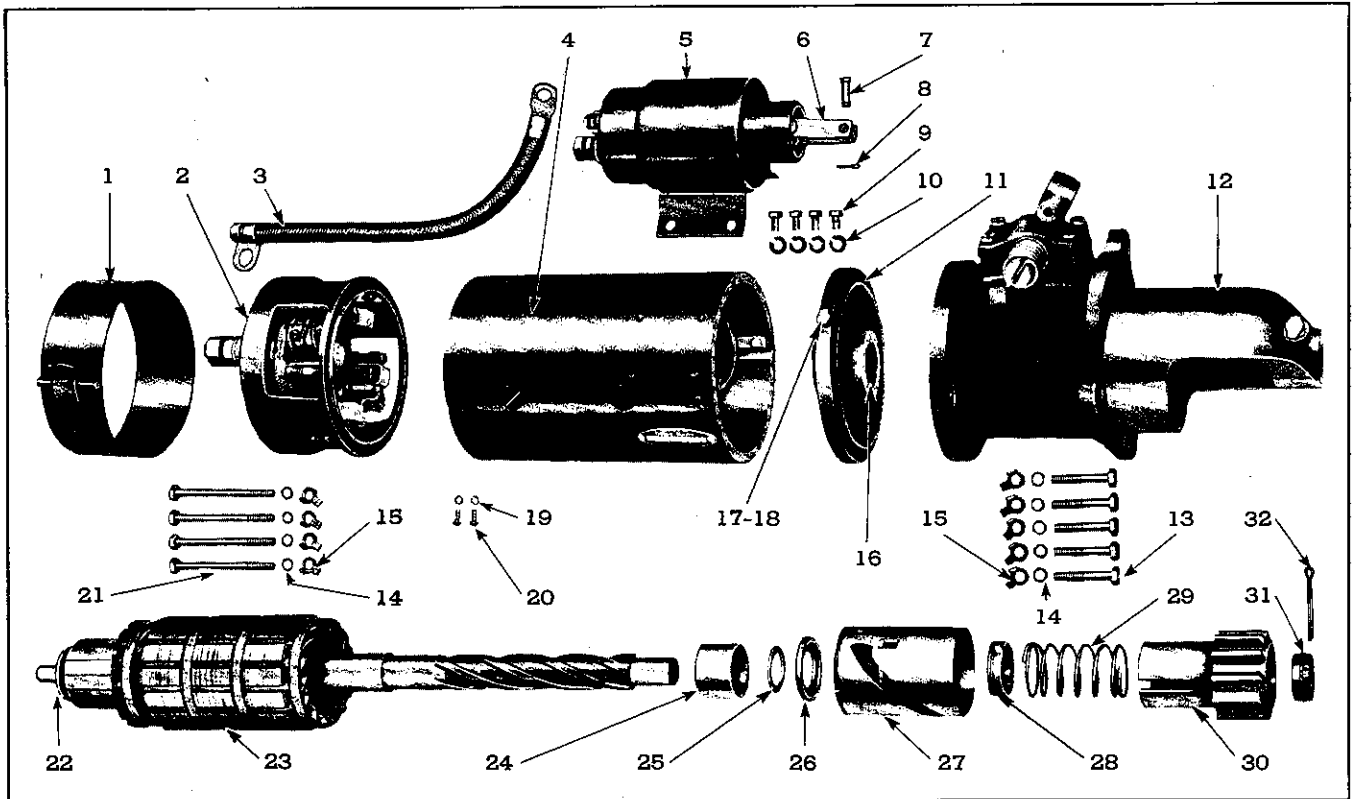

Fig. 16—Starting Motor Disassembled into Main Sub-Assemblies.
1. Unscrew terminal nuts (33) (See Fig. 16 and 17)
1. Unscrew link assembly (6) from solenoid plunger. (See Fig. 16.)